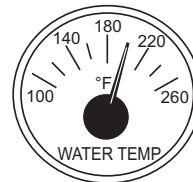

Figure 54. Coolant Temperature Gauge
10. The **coolant temperature gauge** (Figure 54) will indicate the coolant temperature. Under normal operating conditions the coolant temperature should be between 167°–194°F (75°–90°C) (**Green Zone**).